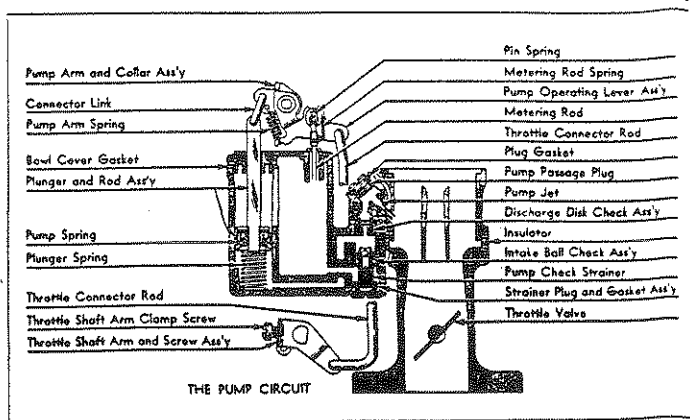

Fig. 4
D. Group all pump circuit parts. (Fig. 4)